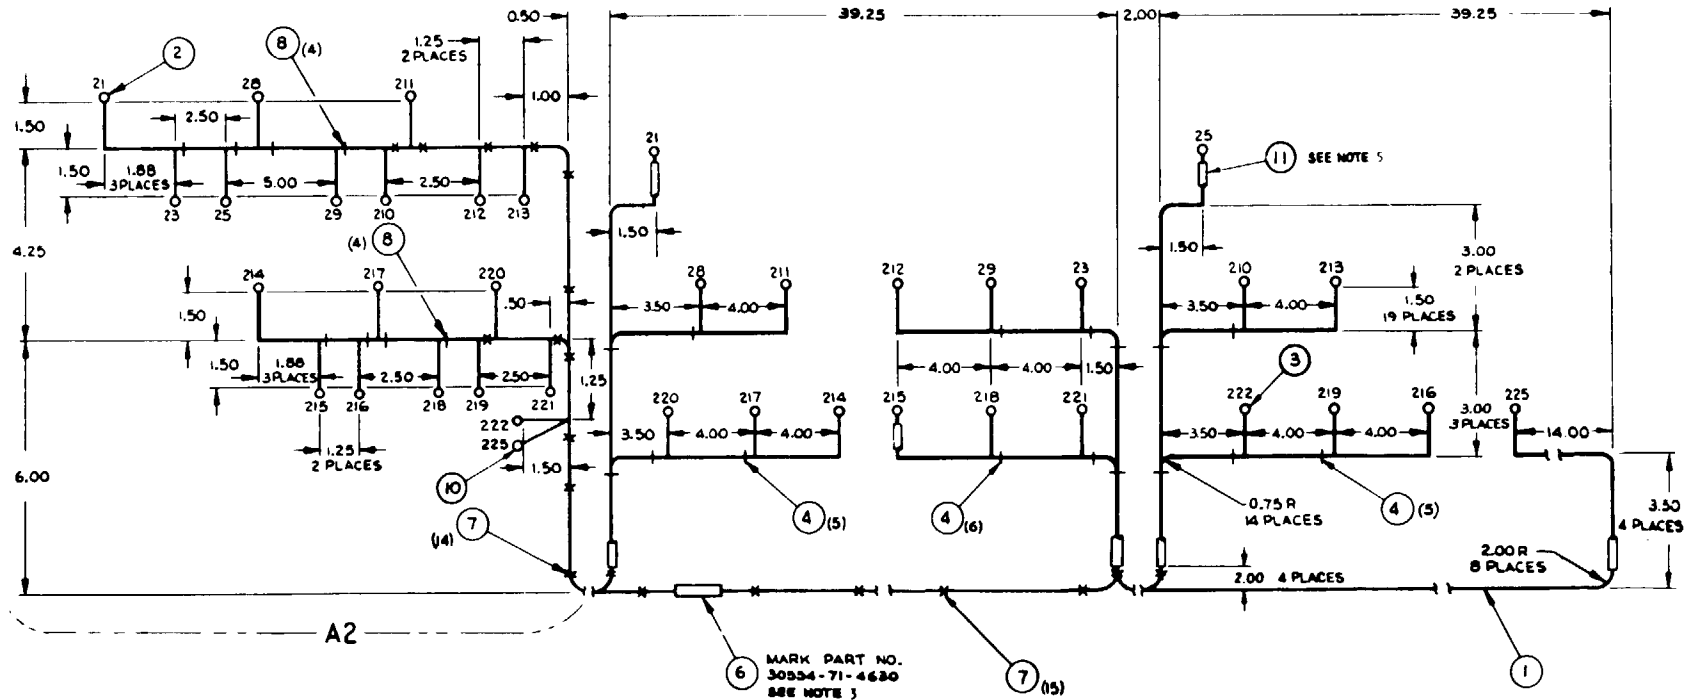

Figure 13-2. Dummy load kit right side wiring harness (sheet 1 of 2)
- d. Repair damaged harnesses as specified in figure 13-2 or 13-3.
- a. Rebuild dummy load kit right side wiring harness as specified in figure 13-2.